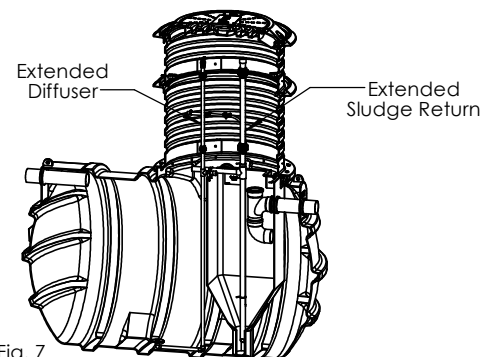

Fig. 7
- Fit reworked Diffuser & Sludge return pipework (Gravity tank) into the tank and fix on the macflow clips on the top lip of the FST (Fig. 7).